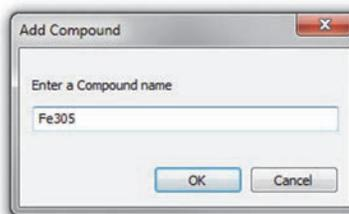

Figure 1-51 The Add Compound dialog box
- Click the plus button under the **Option** list to display the **Add Compound** dialog box (see Figure 1-51 on page 39).